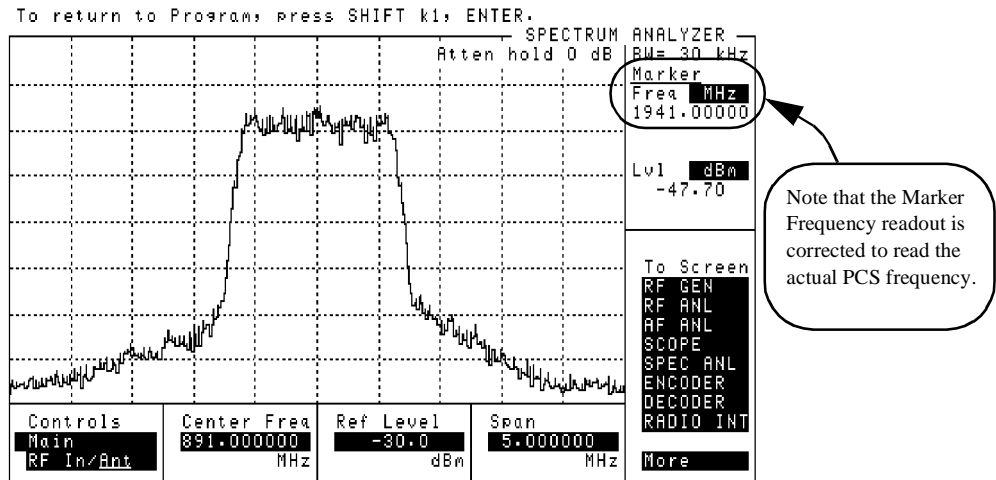

Figure 17
- 4 Scroll to and select **Go to Spectrum Analyzer @ Present Chan**. The spectrum analyzer display will appear and the center frequency will be set to match the channel number entered in step 2 (see figure 17).